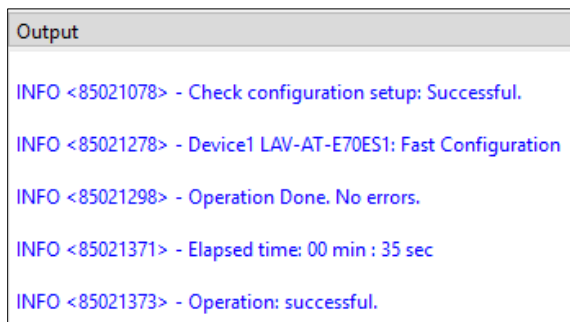

Figure 4.19. Output Console – Programming the FPGA Bitstream
- b. The **Output Console** displays a message indicating that the operation is successful (Figure 4.19).